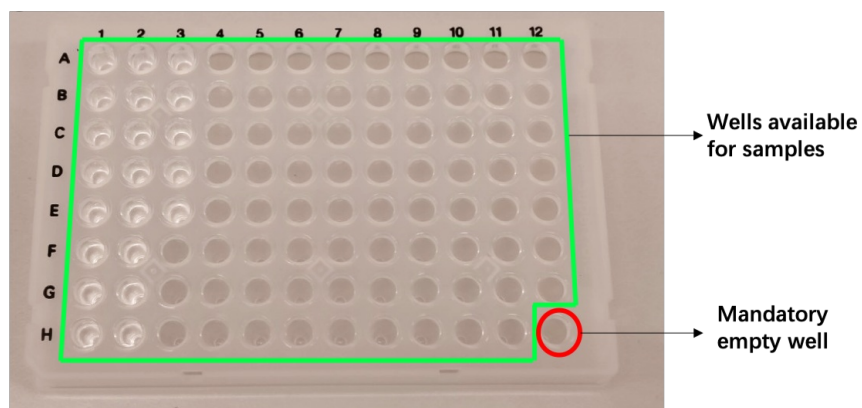

Figure 2b
- ii. Positions A1 to G11 are available for DNA (sample) while H12 is generally left empty for controls in downstream assays (Fig. 2b).